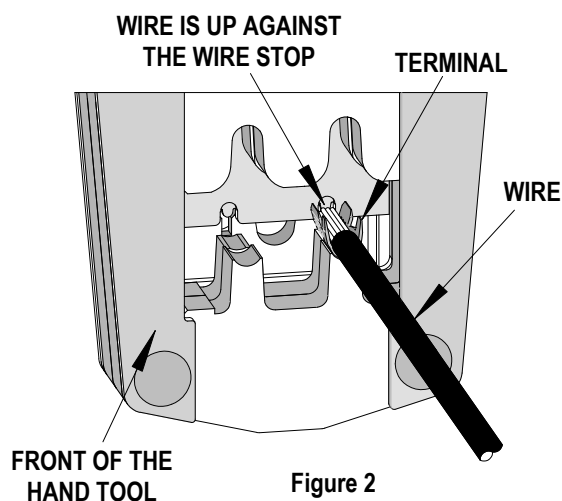

Figure 2
4. From the front of the hand tool insert the pre-stripped wire over the terminal and against the wire stop. See Figure 2.